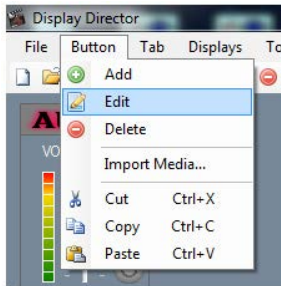

Figure 2-17
- Select *Button > Edit* from the main menu, as shown in Figure 2-17